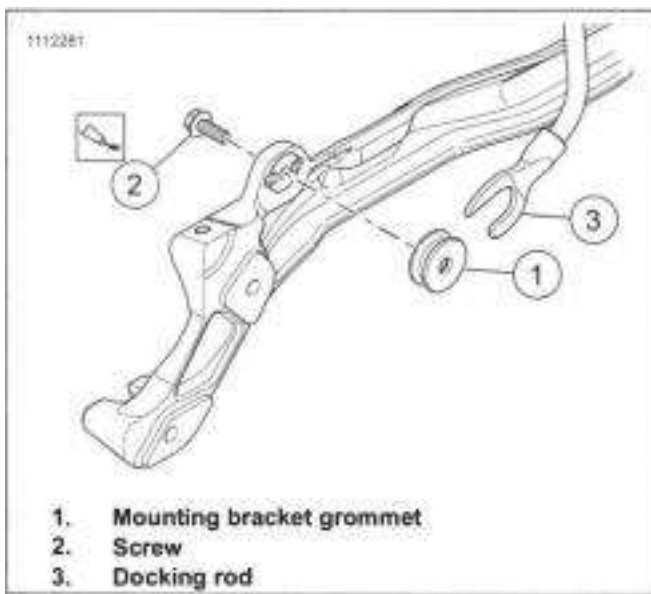
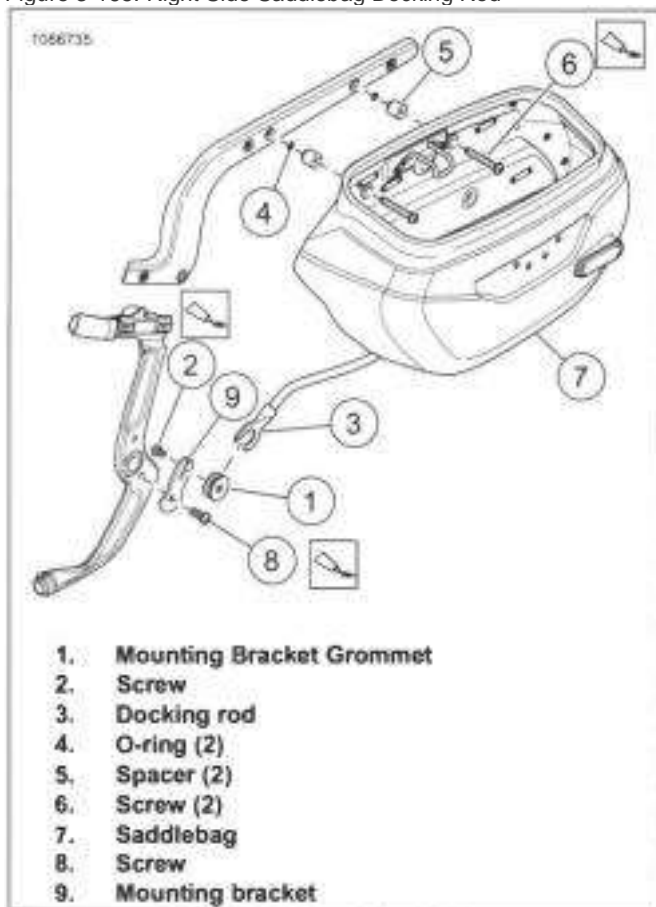

Figure 3-165. Right Side Saddlebag Docking Rod
Figure 3-166. Left Saddlebag
1. See Figure 3-166. Remove saddlebag.
- b. Remove screws (6).
- c. Pull saddlebag (7) out and remove.
- d. Remove spacers (5) and O-rings (4), if necessary.
2. See Figure 3-165. Remove right side mounting bracket grommet.
- a. Remove screw (2).
- b. Remove mounting bracket grommet (1).
3. See Figure 3-166. Remove left side mounting bracket grommet.
- c. Remove screw (8).
- d. Remove mounting bracket (9).
1. See Figure 3-165. Install right side mounting bracket grommet.
- a. Seat the mounting bracket grommet (1) nubs with the holes on frame.
- b. Apply threadlock to screw (2).
2. See Figure 3-166. Install left side mounting bracket grommet.
- a. Position mounting bracket (9) on frame.
- b. Apply threadlock to screw (8).